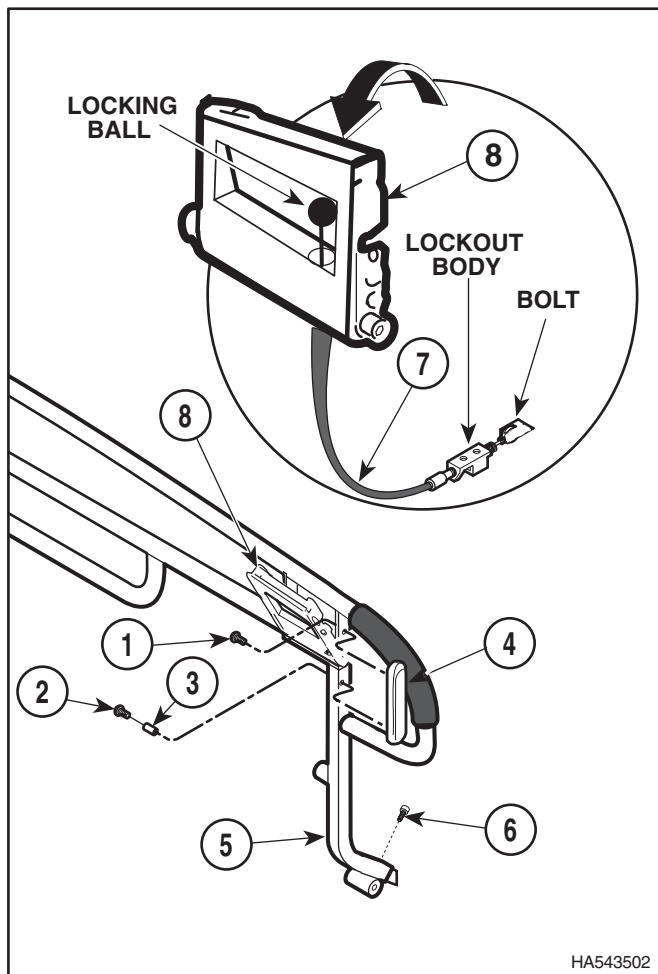

Figure 4-31. 550 and 555 Siderail Latch Assembly Removal / Installation
- (1) Remove screw (1, Figure 4-31), screw (2), spacer (3), and end cap (4) from siderail (5).
- (2) Remove two screws (6) securing lockout body of cable assembly (7) in siderail (5).
- (3) Push lockout body of cable assembly (7) into siderail as far as it will go.